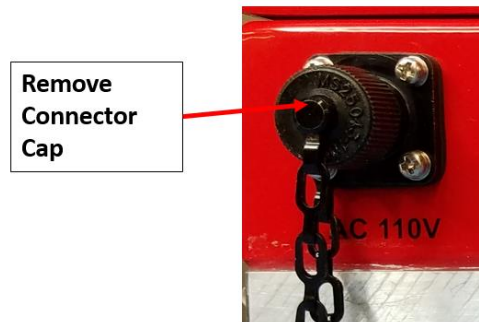

Figure 5-7: Remove the Power Connector Cap
1. Remove the cap from the AC 110V power connector on the Signal Booster, Figure 5-7.